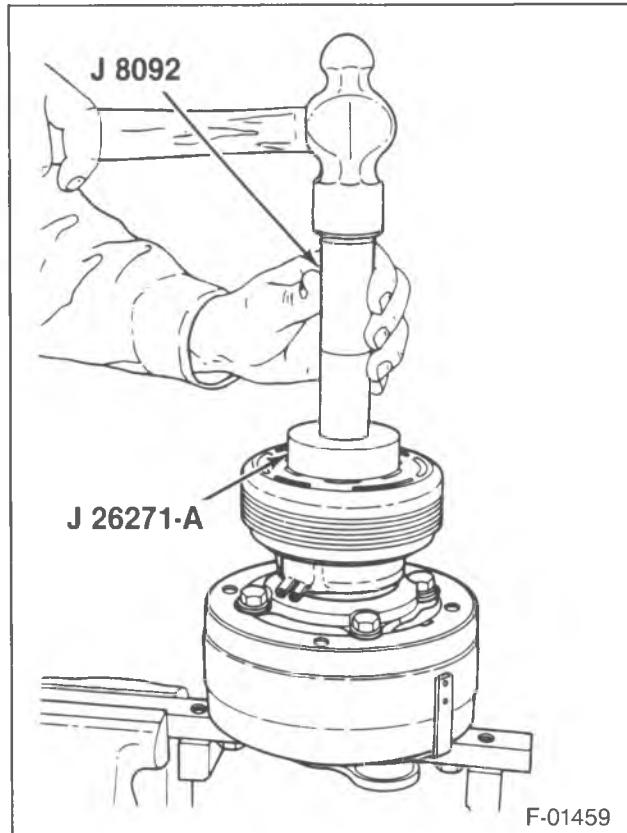

Figure 14—Installing the Rotor and Bearing Assembly — Poly-Groove Type
2. Rotor (5) and bearing (6) assembly to the compressor with J 26271-A and J 8092 (figure 14).
3. Retainer ring (4) with J 6083.
4. Clutch drive hub (3).